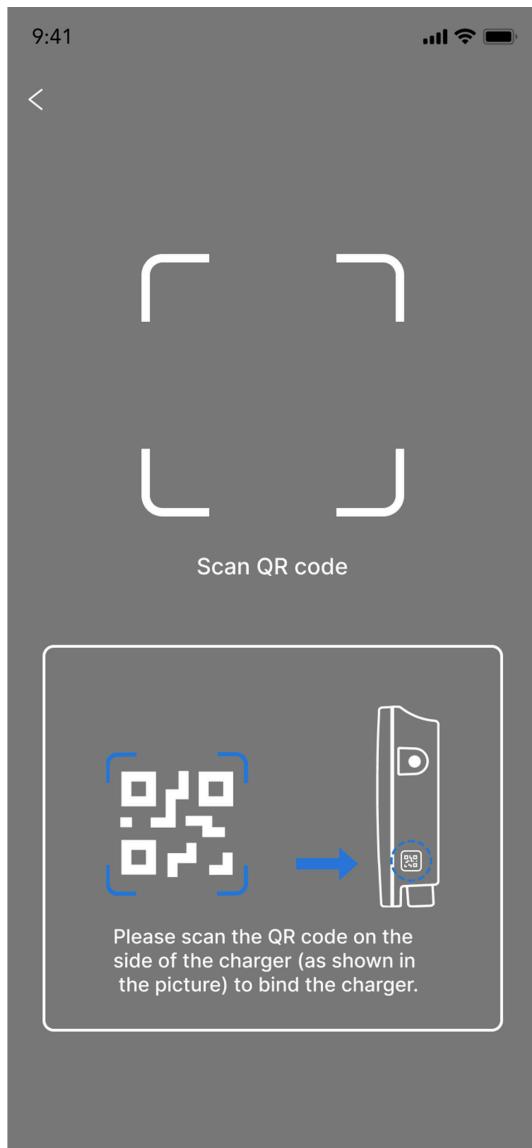

Fig.6.1.6
6. Scan the QR code on the side of the charging station. (See Figure 6.1.6)